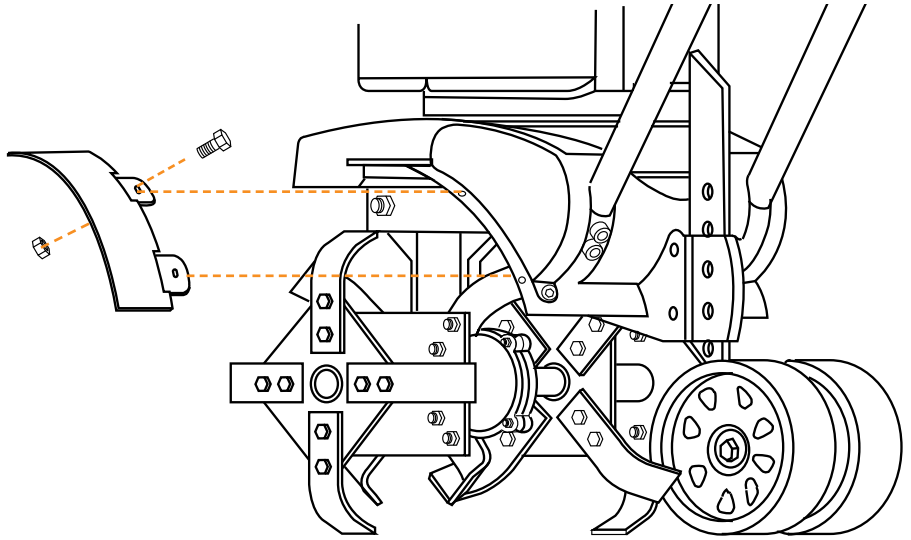

Figure 9
1. There are left and right hand Safety Shields. Each has three holes drilled through a mounting tab. Align the mounting tab with the holes drilled in the tiller and secure with a hex bolt through the top and a hex nut underneath the safety shield in three places on each side (see Figure 9).